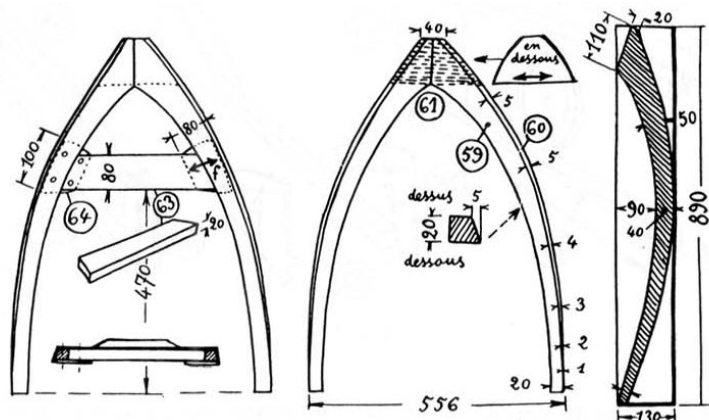

Figure 3.11: The “lyre”
The two ends of the flanks are brought together by a “lyre” (50) cut with a saw from a 20mm hardwood plank (fig. 3.11).